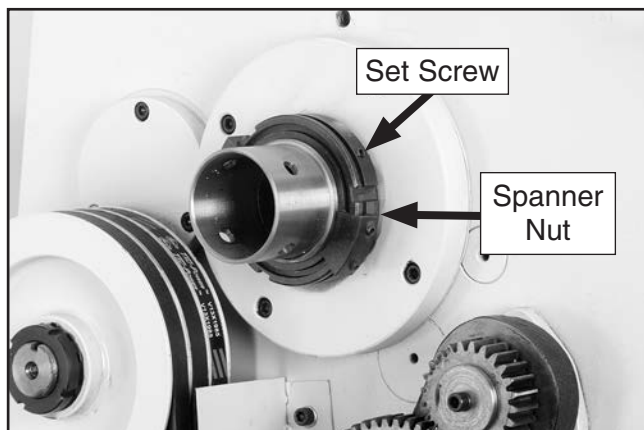

Figure 68. Outboard spindle/spanner nut.
3. Remove the chuck, shift the spindle to neutral, then remove the lathe end cover to expose the outboard spindle and spanner nut (**Figure 68**).
4. Using a 3mm hex wrench, remove the spanner nut locking set screw (**Figure 68**).